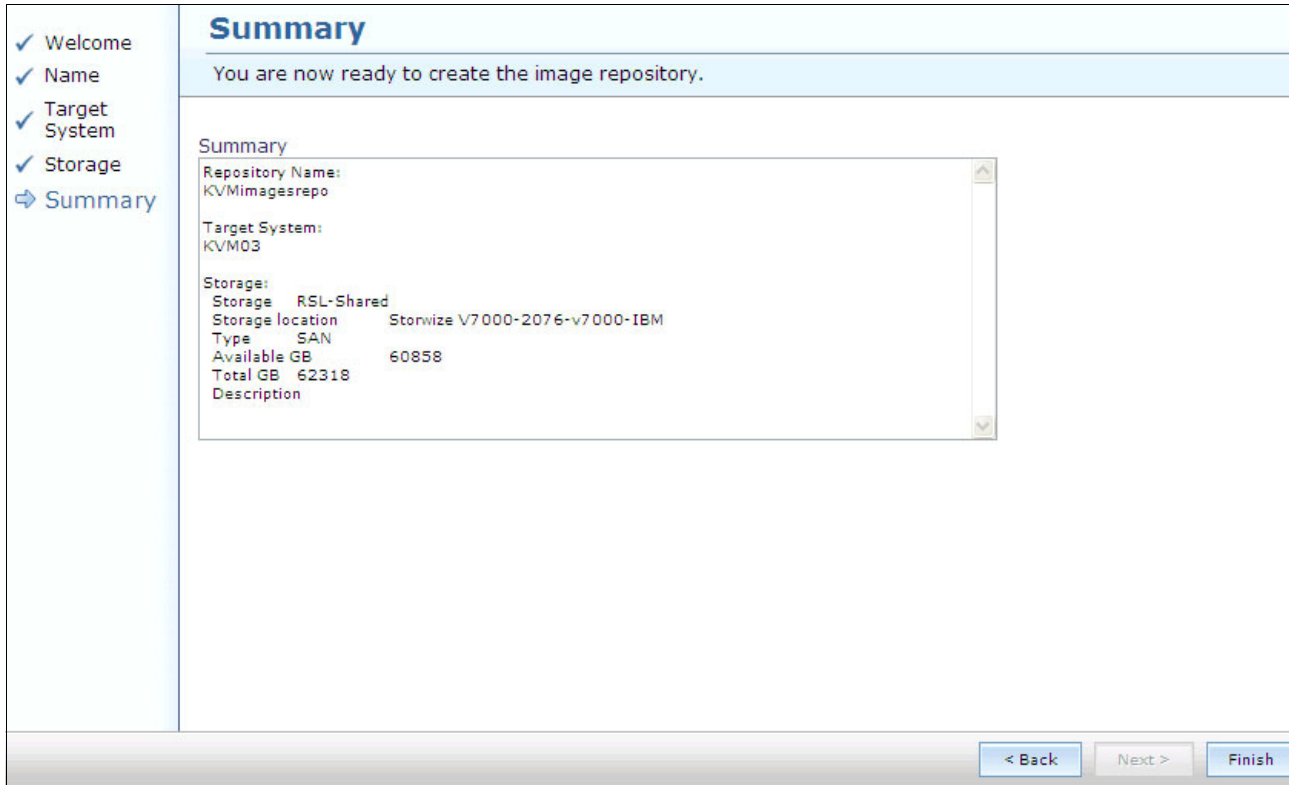

Figure 9-54 Image repository creation summary
- Review the summary and click **Finish** to complete the image repository creation as shown in Figure 9-54.